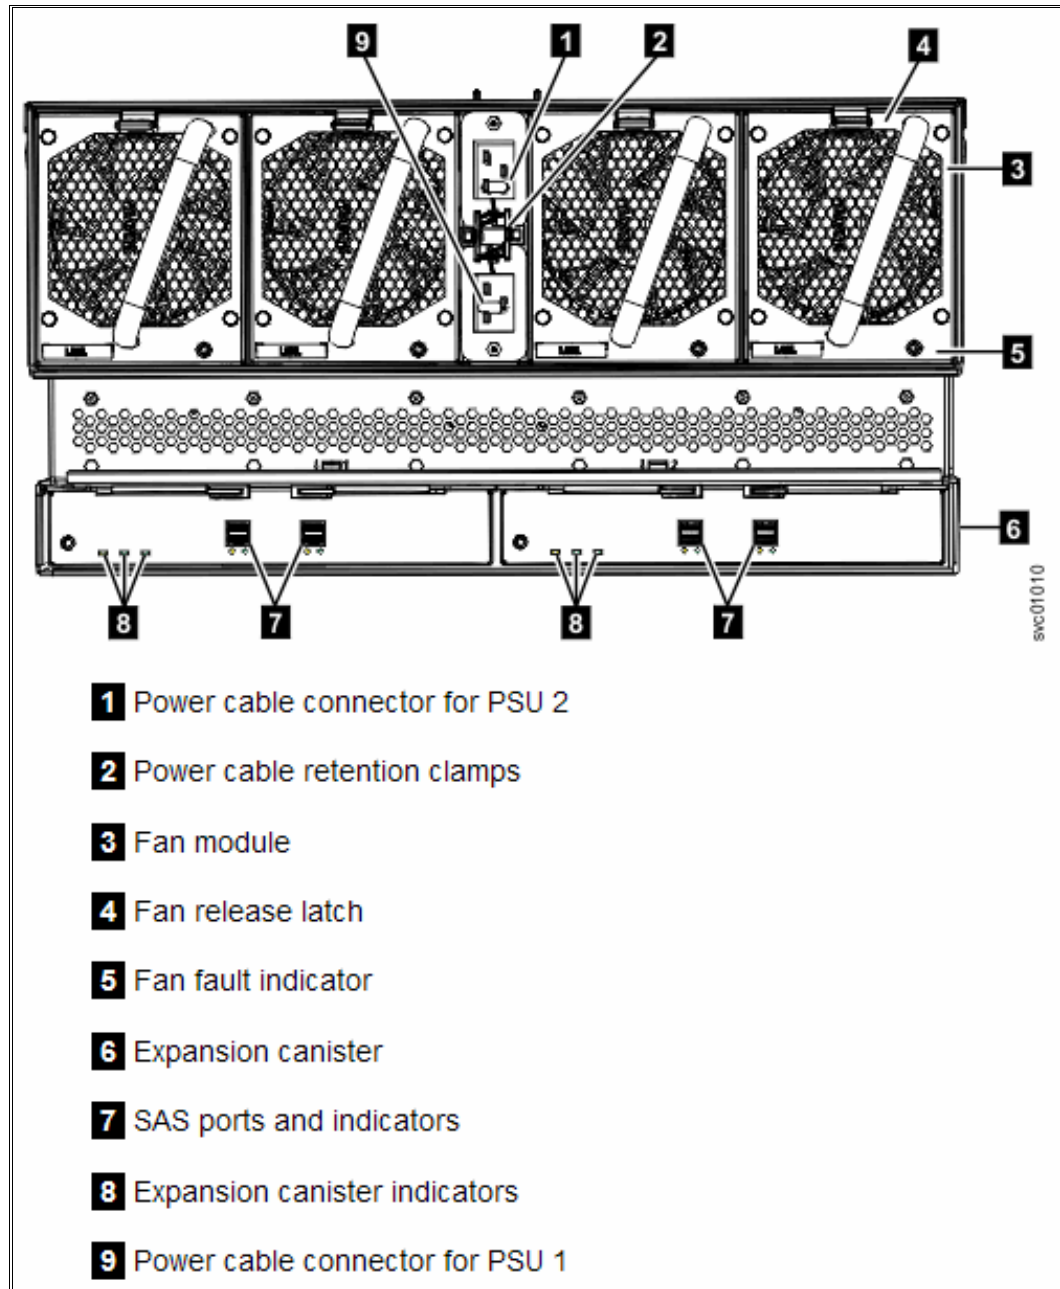

Figure 6-42 Model A9F expansion enclosure rear view
- a. On the back of the expansion enclosure, all four fans and the expansion canister indicators (**3** and **3** in Figure 6-42 on page 200) become active when the power is connected.